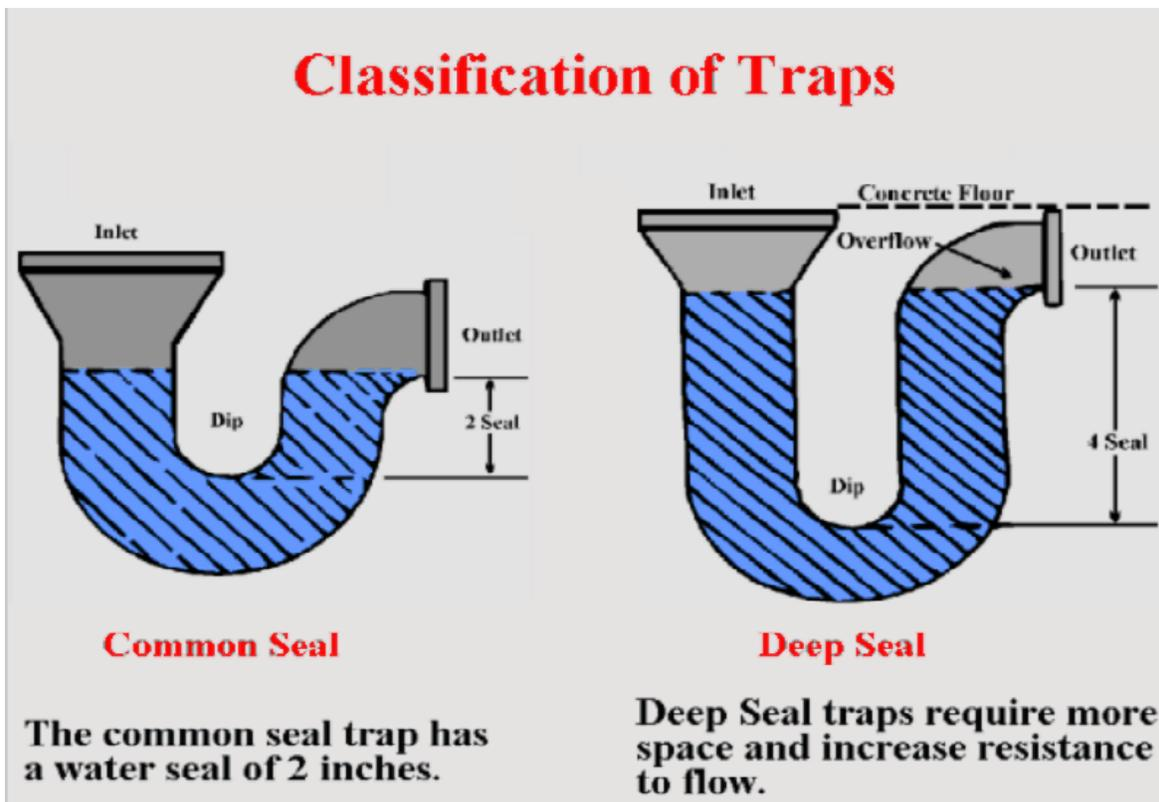

Figure 1. Classification of Traps
2.2. P-Trap. There are two different types of P-traps: the common seal and the deep seal (*which holds twice the column of water, or 4 or more inches than the common seal*). Both types of P-traps require the same type of repairs. (See Figure 1.)